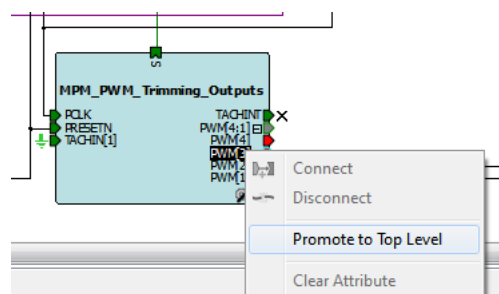

**Figure 38 • Edit Slices of CorePWM**
4. Click Add Slices to add an extra PWM port as shown in Figure 38. Click **OK**.